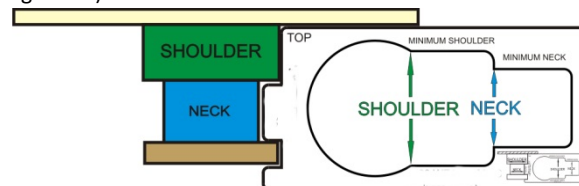

Figure 28: Typical kingpin wear limit gauge
- Use an approved height/wear gauge to provide a quick and accurate check of the kingpin and ensure it is safe for use (see Figure 28).